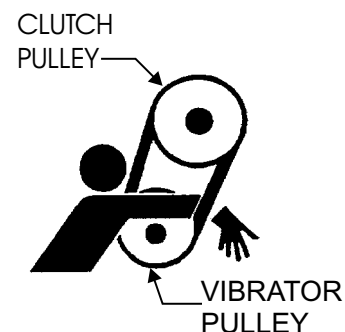

Figure 6. V-Belt Hazard
**NEVER** attempt to check the V-belt with the engine running. Severe injury can occur if your hand (Figure 6) gets caught between the V-belt and the clutch. Always use safety gloves.